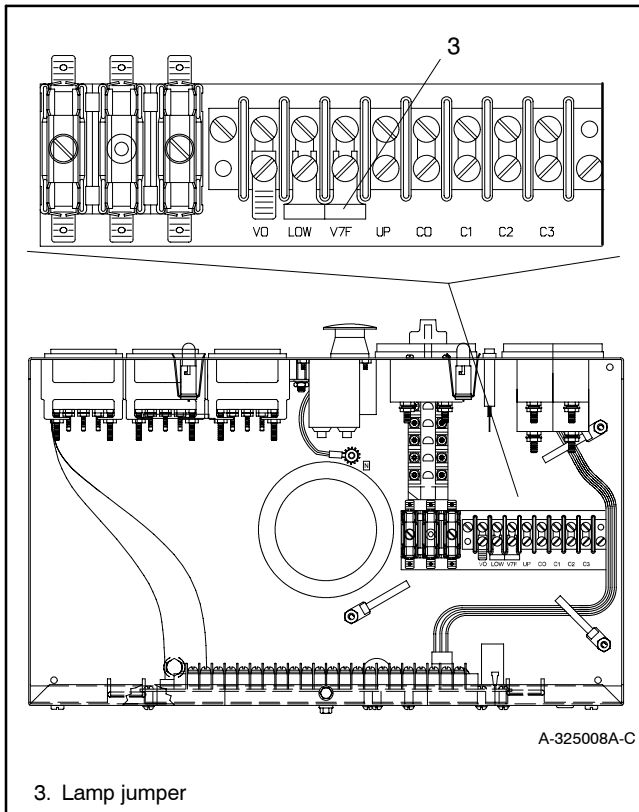
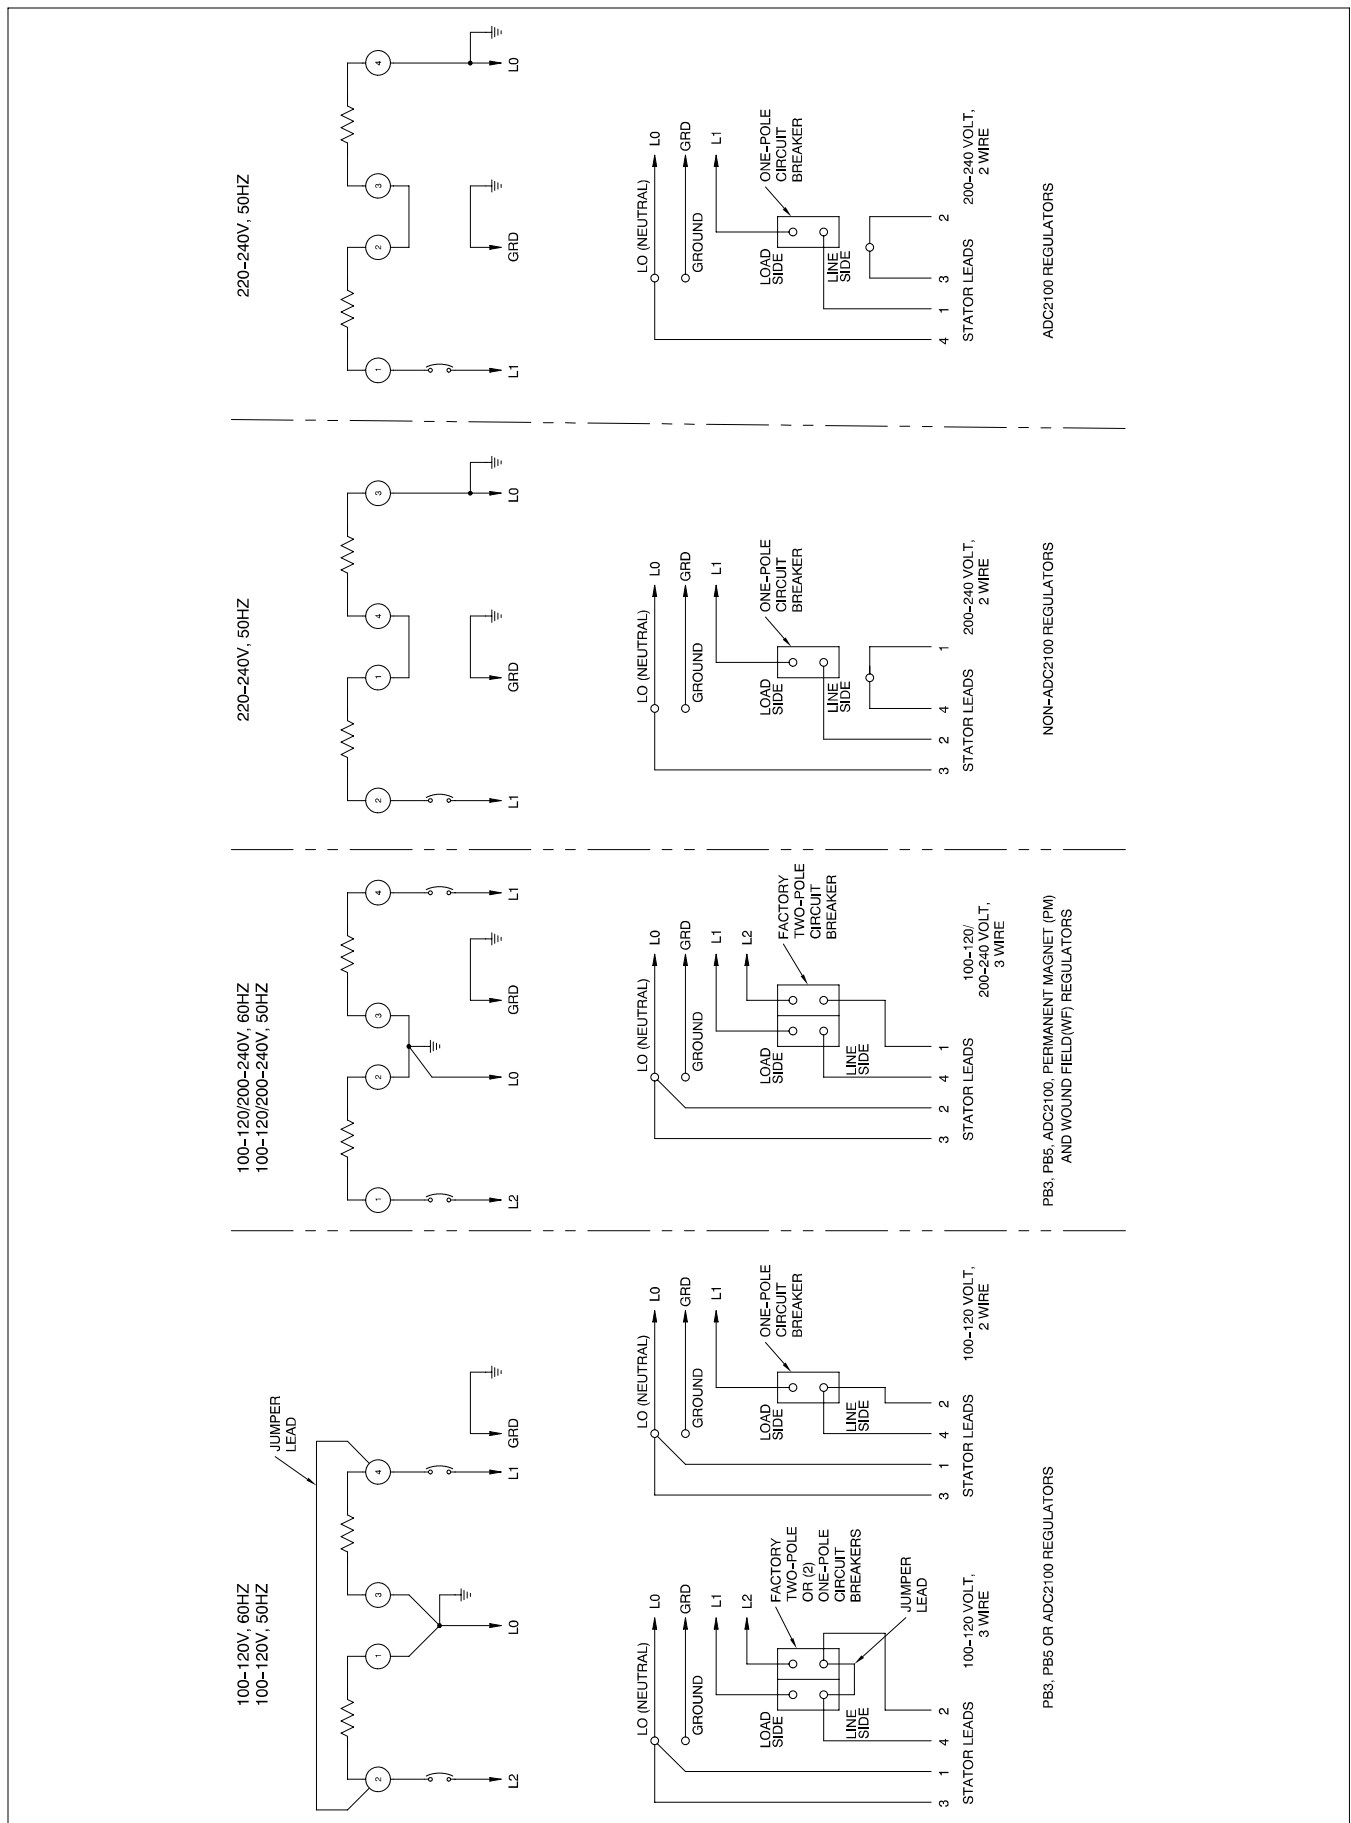

Figure 5-1 Meter Scale Lamp Jumper
Figure 5-5 Generator Set Reconnections, 20-150 kW Models, Single-Phase
Reconnect the generator set stator leads to change the output phase or voltage. Refer to the following procedure and the connection schematics in Figure 5-5, Figure 5-6, or Figure 5-7. Follow the safety precautions at the front of this manual and in the text and observe National Electrical Code (NEC) guidelines.
3. Use Figure 5-5, Figure 5-6, or Figure 5-7 to determine the generator set voltage configuration. Note the original voltage and reconnect as needed. Route leads through current transformers (CTs) and connect them according to the diagram for desired phase and voltage.
4. If the controller has meters, remove the controller cover and reposition the meter scale lamp jumper (see Figure 5-1) to match the position for desired voltage (shown in Figure 5-5, Figure 5-6, or Figure 5-7). Replace the controller cover.
5. Connect a digital AC voltmeter (or other highly accurate voltmeter) to terminals V0 and V7 on the controller terminal block. See Figure 5-1.